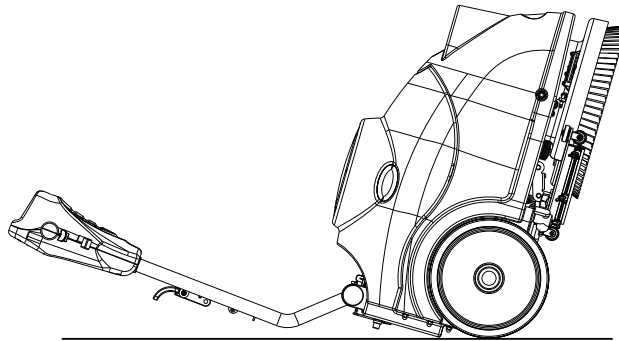

FIGURE 2
2. Lay down the machine in the position shown in figure 2. Pull up lift lever (26) to raise the squeegee. (33).
1. Turn off the machine. (47)
2. Pull down the squeegee lift lever (26) to put down the squeegee in the "working" position.
3. Lay down the machine in this position as shown in figure 2.
4. Loosen the two knobs (55) on the squeegee and slide the squeegee into the slots on the squeegee brackets.
6. To replace the front/rear squeegee, (56/57) unscrew the thumb knobs (37).